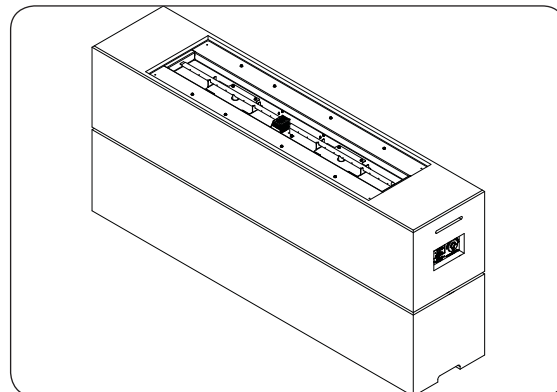

Fig. 17-1 Place base
1. **CAREFULLY** place the base in an appropriate location (see Fig. 17-1, and refer back to the LOCATION section if needed).